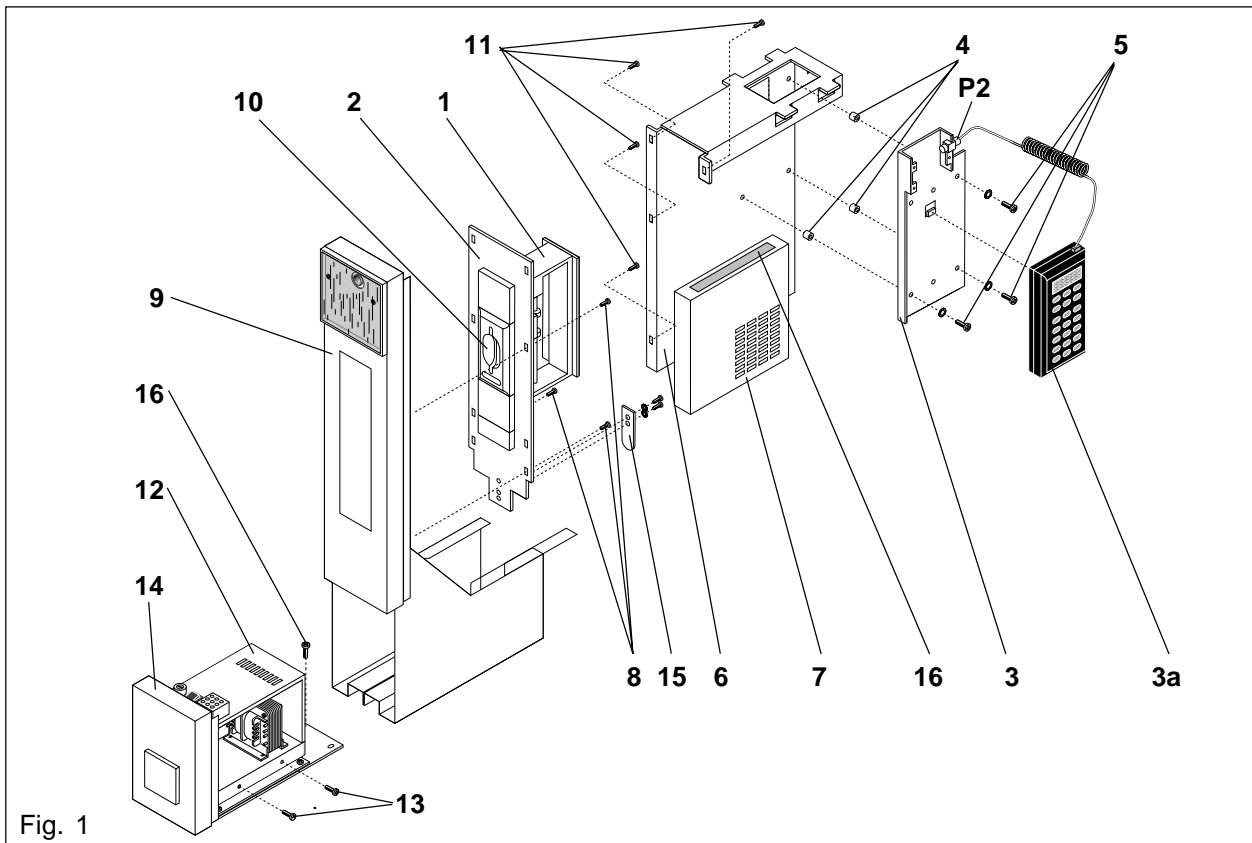

Fig. 1
- Remove the mounting panel (6) and the console for Catercard (2). (fig. 1)
- Fasten the card reader (1) with 3 screws at the console (2) for catercard. (Fig. 1)
- Disconnect the Mastermodul (3a) from the base plate (3) and disconnect the plug P2. Fix the base plate (3) with 3 distance tubes (4) and screws with washers (5) on the mounting panel (6). The distance tubes between the base plate and the mounting panel serve to keep the distance. (Fig. 1)
- Remove the cover of the P.S.U. (7) with the board (4 screws). (Fig. 1)
- Fix the lower housing part of the P.S.U. with 3 screws with washers at the mounting panel. (Wiring side (16) to the top)
- Fasten the console (2) for card readers [together with card reader (1)] with 3 screws (8) at the front insert (9). Make sure that the operating elements (10) are aligned correctly in the gap of the front insert. (Fig. 1)
- Fasten the mounting panel (6) (together with the P.S.U.) with 4 screws M4x8 (11) at the front insert. (Fig. 1)
- Fasten the power supply (12) with 2 screws (13) at the power supply support on the bottom insert. (Fig. 1)
- Push the bottom insert (14) with power supply into the front insert (9) and fasten it with a locking plate (15) and screw (16). (Fig. 1)